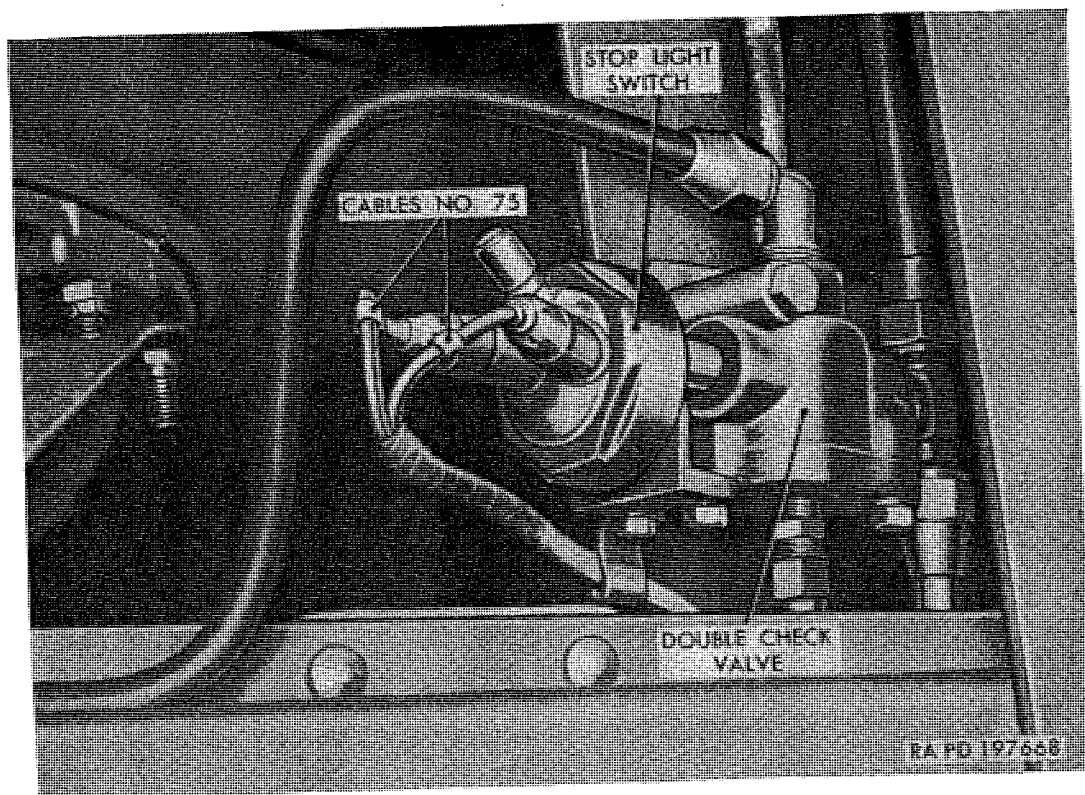

Figure 175. Air-operated stop light switch installed.
- (2) Stop light switch (fig. 175) used on truck tractor M221 is air-operated to provide operation of trailer stop light when trailer brakes are applied either by the truck brake system or by the trailer brake hand control valve. Stop light switch is connected to outlet side of double check valve which is mounted inside left frame side member above forward rear axle. When brakes are applied, either by foot application of truck brakes or by hand application of trailer brakes only, air pressure closes switch contacts. With switch contacts closed, circuit is completed to blackout or service stop light, depending upon which circuit is energized through the main light switch.
- (2) *Air-type (M221 only)* (fig. 175). Disconnect wiring harness cables from stop light switch terminals. Unscrew switch from pipe nipple at side of double check valve.
- (2) *Air-type (M221 only)* (fig. 175). Thread switch onto pipe nipple at side of double check valve and tighten. Connect wiring harness cables (No. 75) to switch terminals.